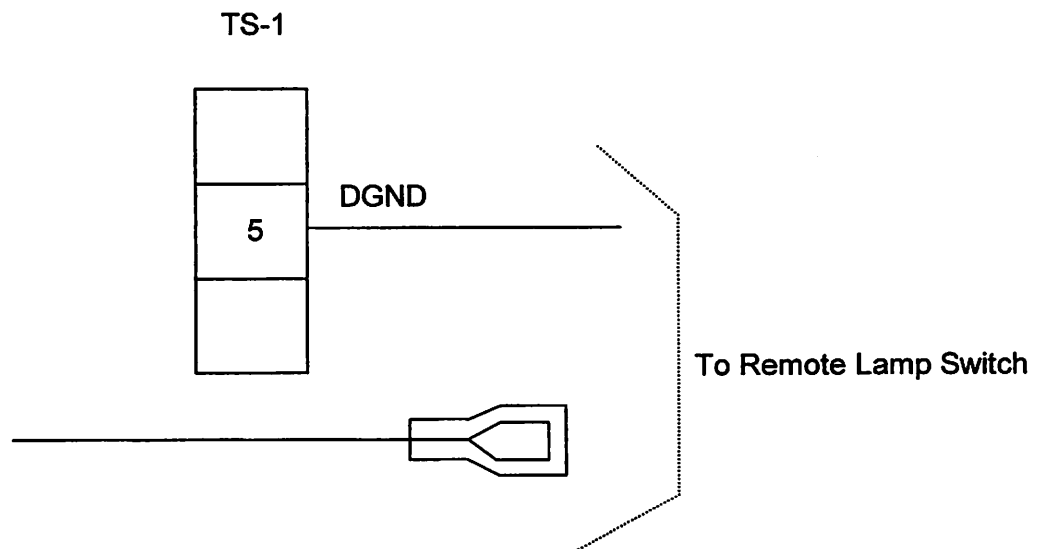

Figure 2.19
16. Some models of the Linear IV Collimator have the capability of accommodating a remote Field Lamp Switch. The Field Lamp Switch can be remotely activated by connecting a switch to the power supply as follows. Connect one wire of the switch to DGND, TS4-4. Connect the other wire of the switch to the white wire with the red faston tab in the power supply. Refer to Figure 2.19. The switch will close a 5 volt logic sense input to ground, sinking no more than 50 mA DC.